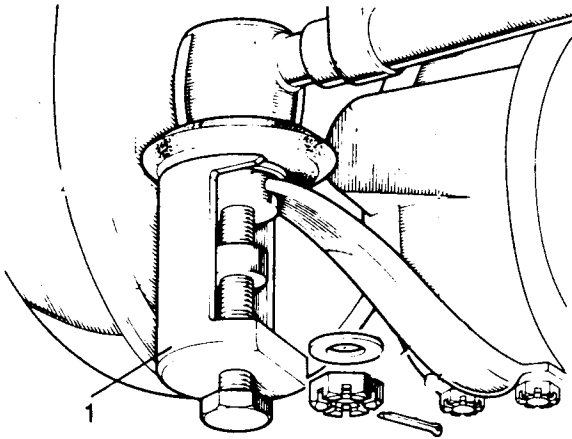

Fig J1.35
- (2) Refer to Fig J1.35. Disconnect the track rod at the ball joint, using special tool 601763 (1).
- (3) If required, disconnect the drag link at the ball joint, using special tool 601763.